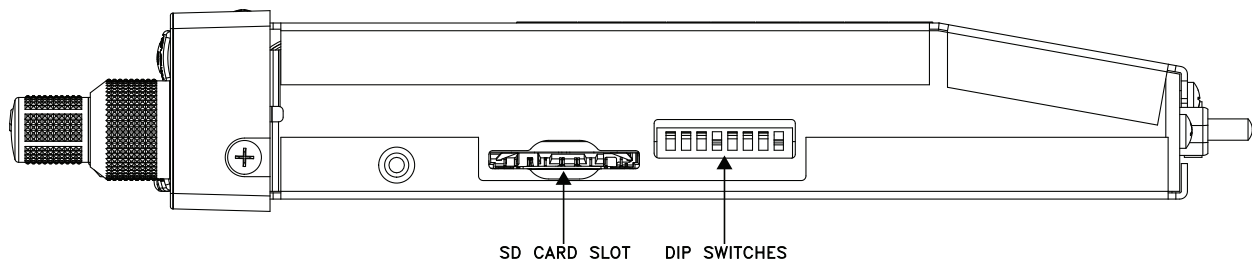

Figure 2-2 SD Card Slot and DIP Switch Locations
The DIP switches are used to select the configuration settings listed in Table 2-9, and are located on the right side of the unit next to the SD card slot as shown in Figure 2-2.
2. The SD card slot is on the right side of the unit next to the DIP switches (see Figure 2-2). Insert the SD card with pins facing down (toward the bottom of the unit).